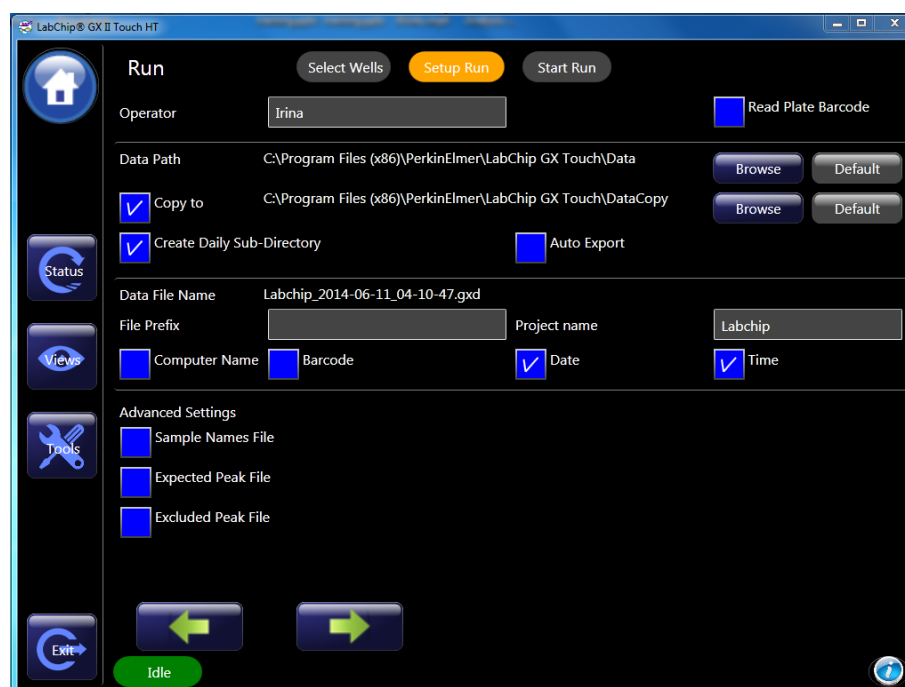

Figure 10. Run setup screen.
- 3 In the *Setup Run* tab, select the operator name, the option to read barcode, the destination of the file, the inclusion of sample names, expected peaks, and excluded peaks and the filename convention. Select *Auto Export* to export results tables automatically (Figure 10). Touch the green arrow button.